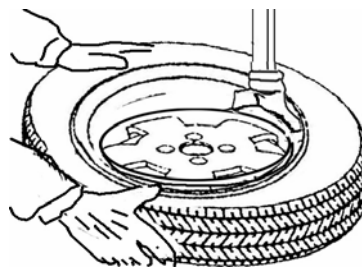
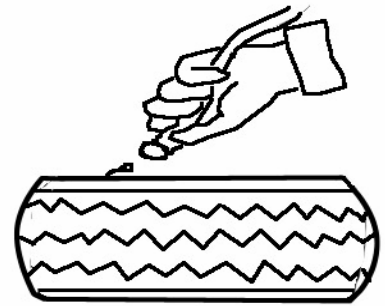

Fig.10
Fig.11
- Keep the tire bead pursed down into the wheel rim channel with your hands. Press down the pedal (Z) to rotate the turntable clockwise (Fig.10). Continue until you have covered the entire circumference of the wheel rim(Fig.11).